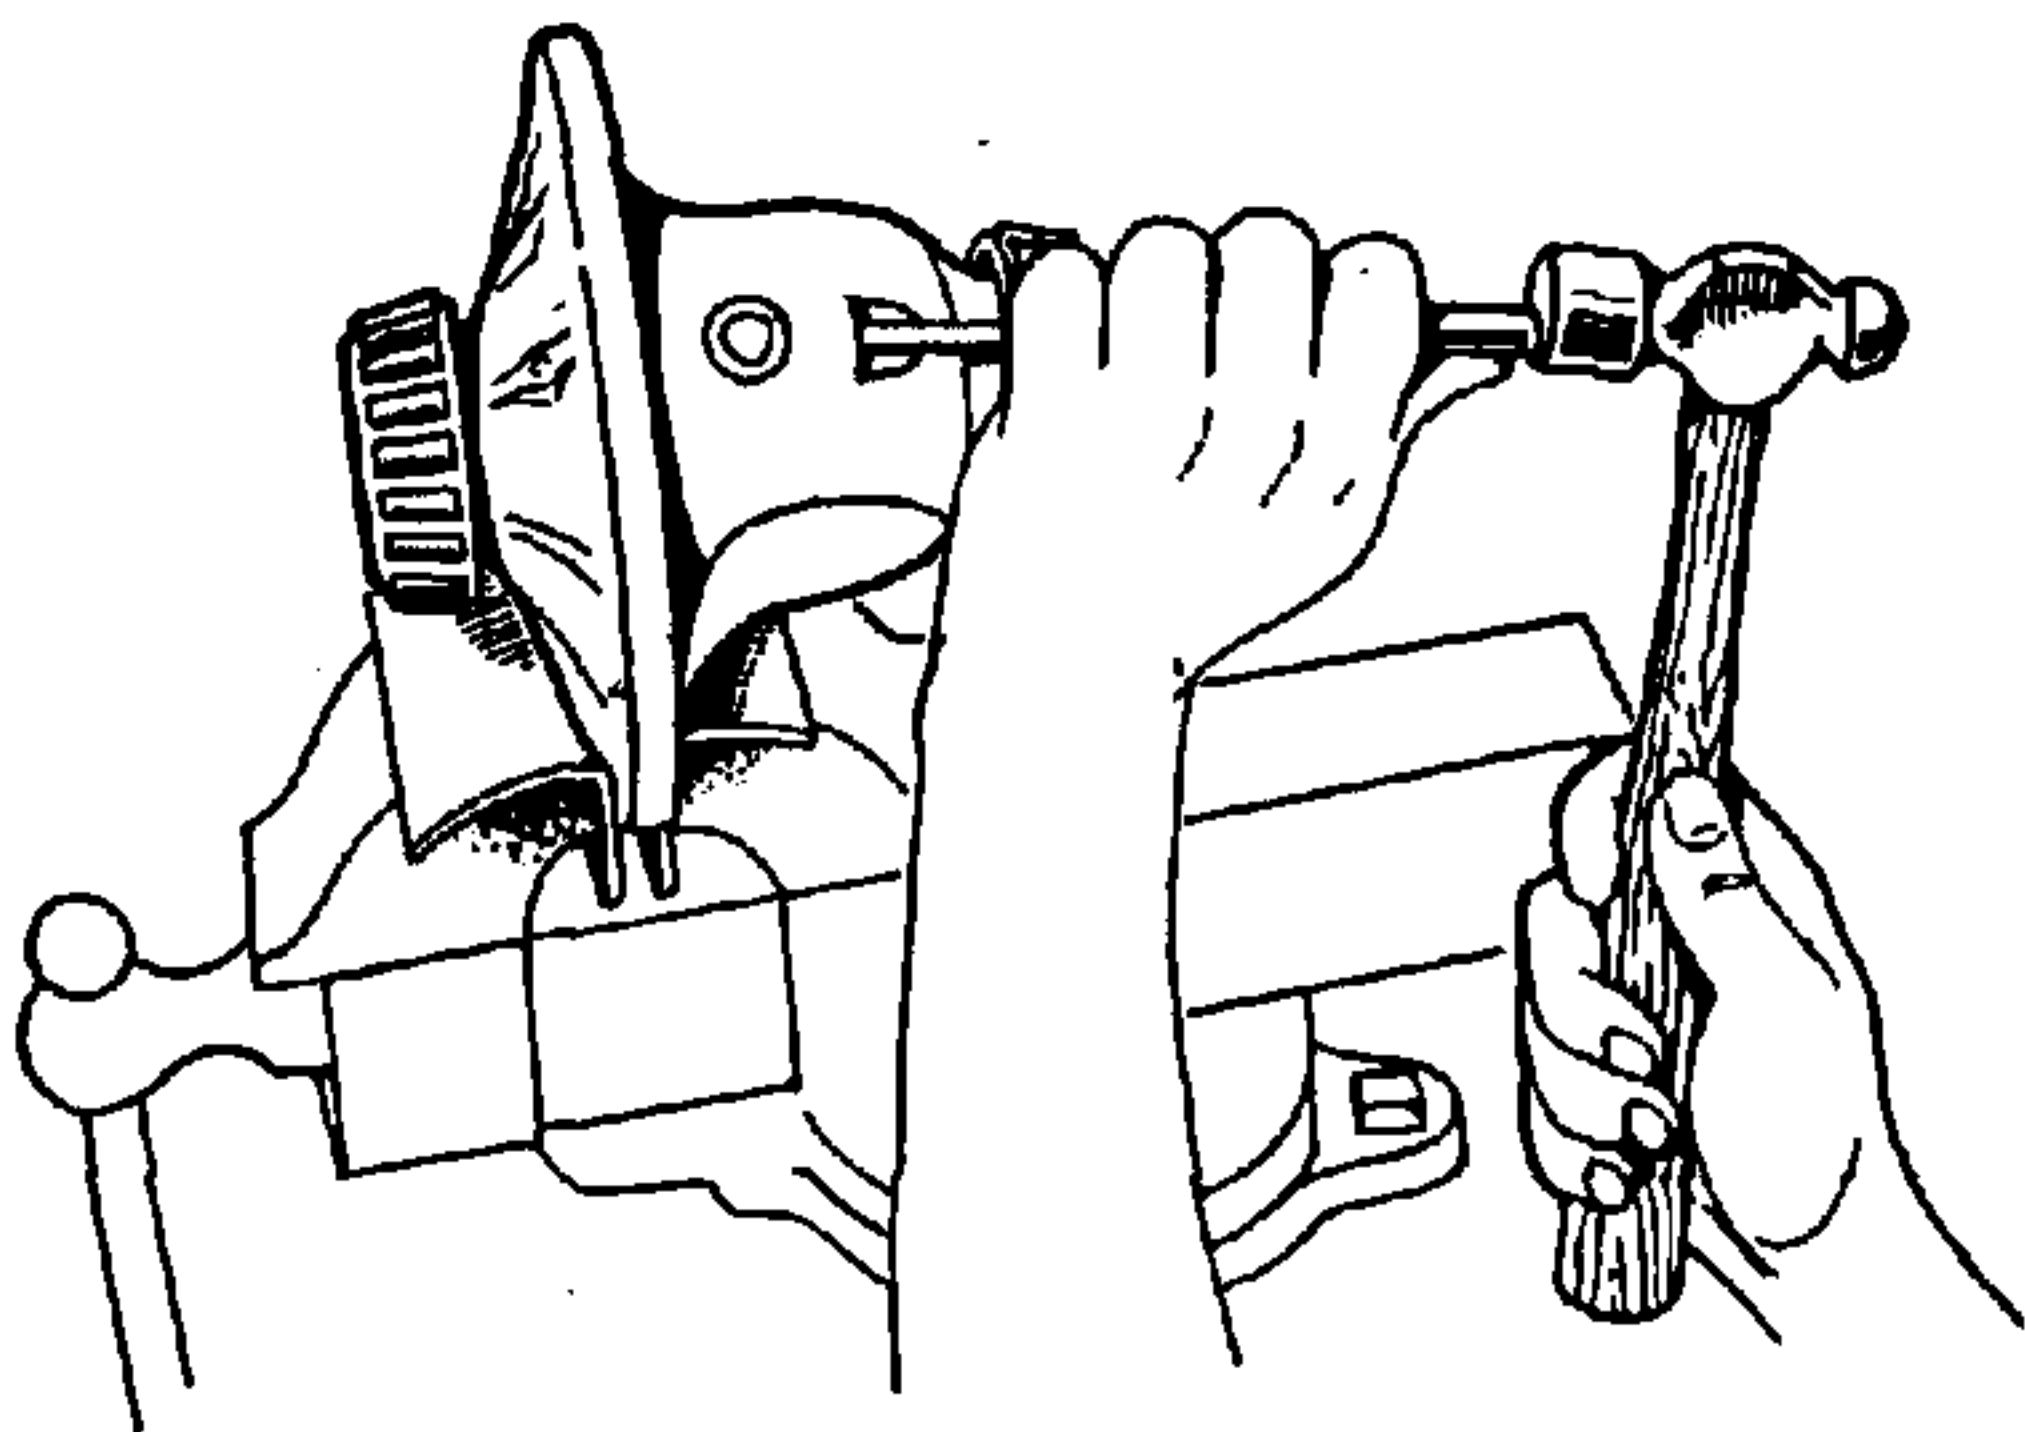

FIG. 3—REMOVING LOCK PIN
6. The differential shaft No. 13 is held in place by a lock pin No. 25, using a small punch, drive out the lock pin to allow the differential shaft to be removed, Fig. 3.